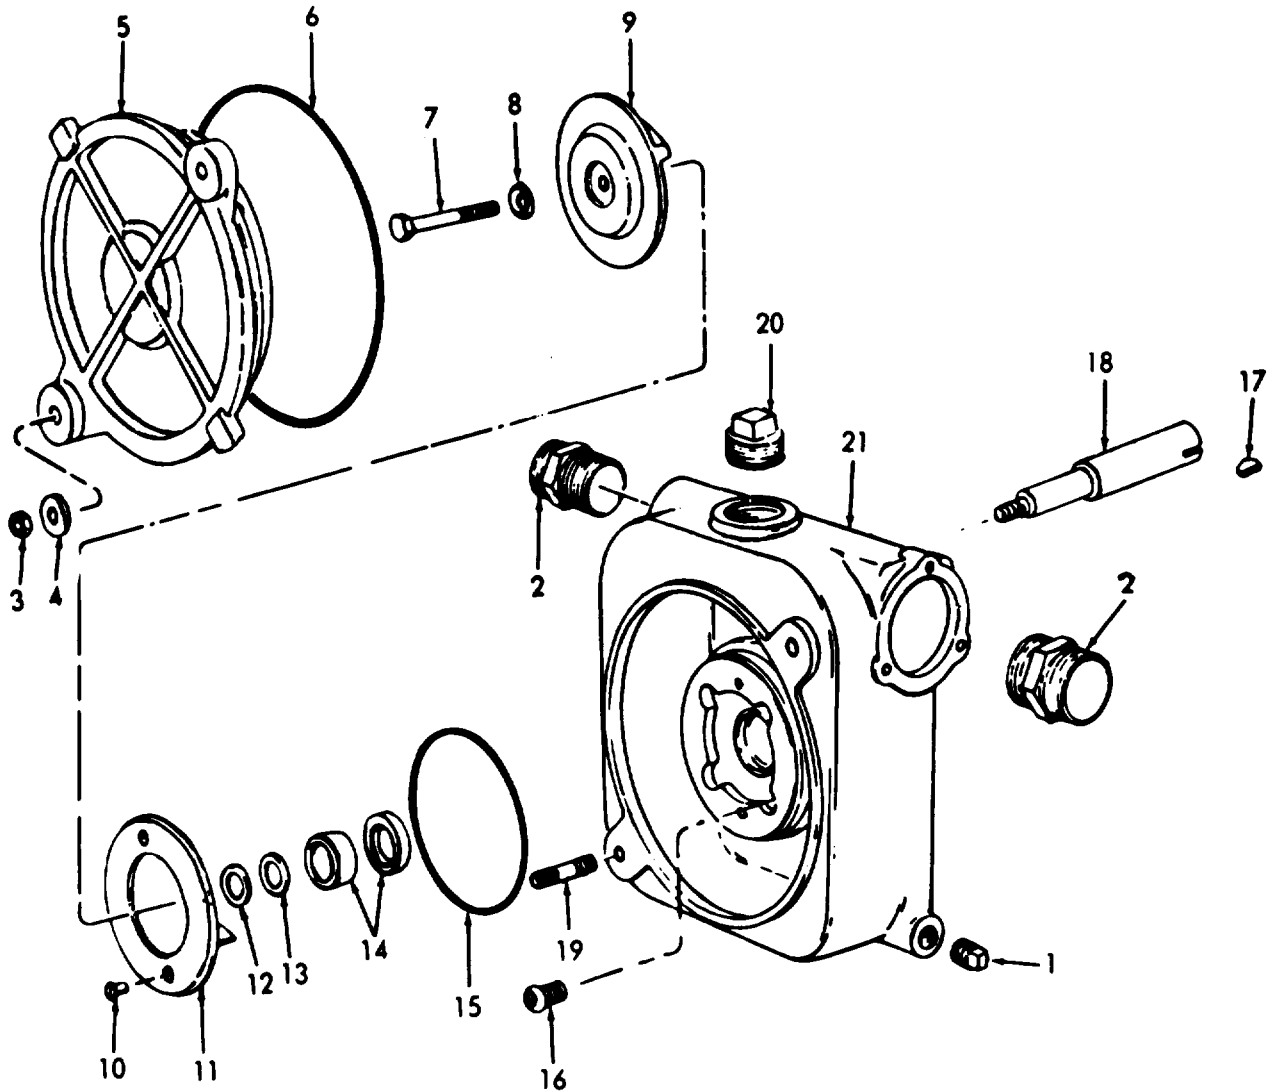

Figure 4-3. Pump, disassembly and reassembly.
- (1) Disconnect two spark plug leads (1).
(2) Disassemble pump in numerical sequence as shown in figure 4-3.
(1) Refer to figure 4-3, reassemble pump in reverse sequence.
(2) Torque screw (16) to 32 - 35 ft. lbs.
(3) Install shims (12) as needed to provide .010 to .015 inch clearance between impeller (9) and wear plate (11).